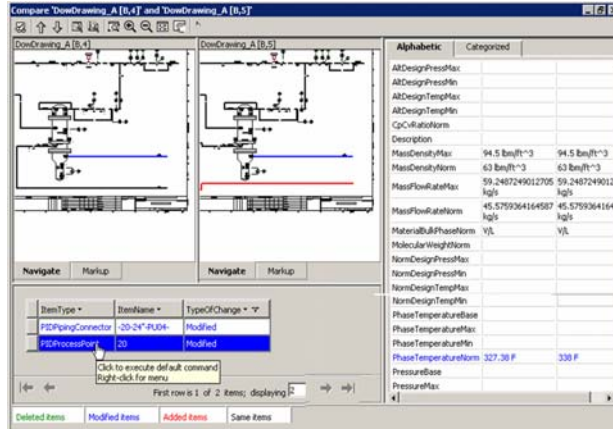

Figure 7: Comparing Data and Visual Representation of Two Document Revisions
- **Intelligent Comparisons of Document Revisions at the Data Level.** Figure 7 shows the comparison of two revisions of the same schematic, indicating items that were added, modified, and deleted – down to individual attributes on specific items.